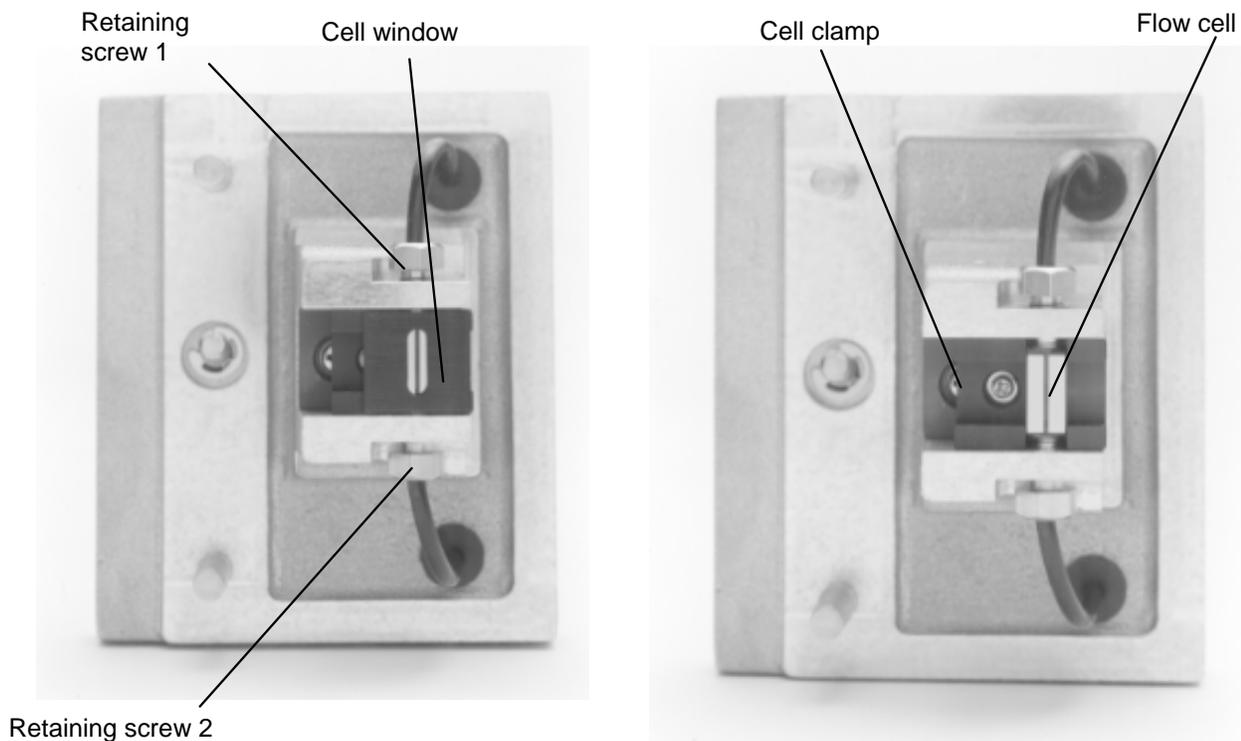

Figure 22 Disassembly of Flow Cell Unit
3. Loosen the upper and lower retaining screws 1 and 2, see Figure 22.